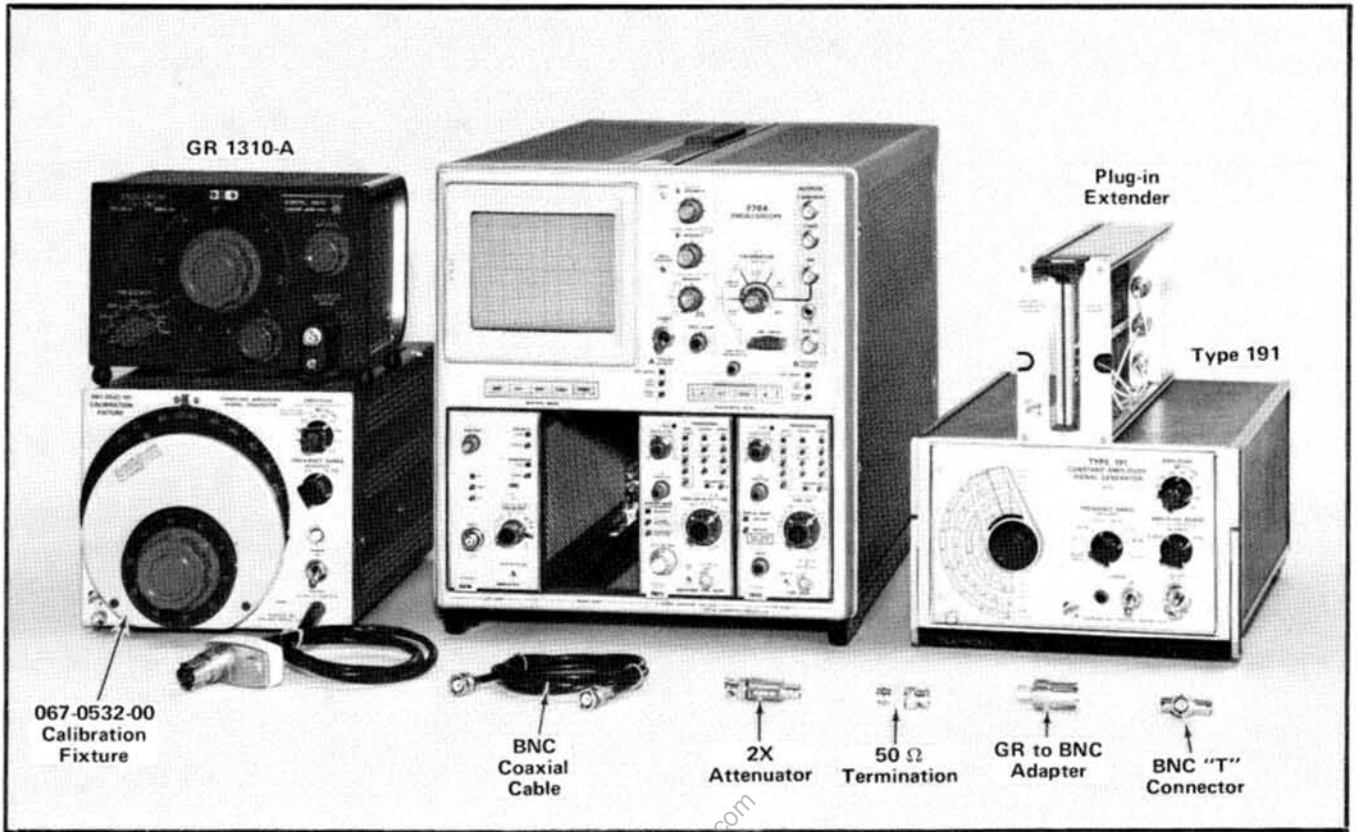

Fig. 5-4. Test equipment required for Steps 12 through 15.
a. Test equipment required is shown in Fig. 5-4.